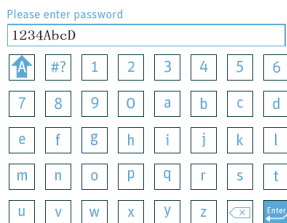
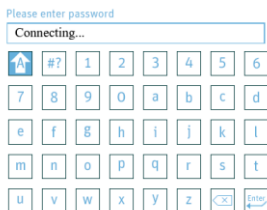

Fig. 15-10
Fig. 15-11
(4) After the desired WiFi network is found, press the **Knob** , turn the **Knob**  to select this WiFi network. Press the **Knob**  to access the WiFi password input interface. The password is at least 8 characters in length, and can contain uppercase and lowercase English letters and digits 0 ~ 9, as shown in Fig. 15-10. After the password is entered, turn the **Knob**  until the cursor stays on the **Confirmation Key** . Press the **Knob**  to connect to the WiFi network, as shown in Fig. 15-11. At this moment, the user must not perform any operations, and should wait 0-15 seconds for the connection result.